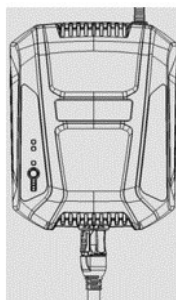

Fig.4
2. Insert the backpack battery plug into the charger socket (Fig. 4). The charger will communicate with the battery to assess the battery status.